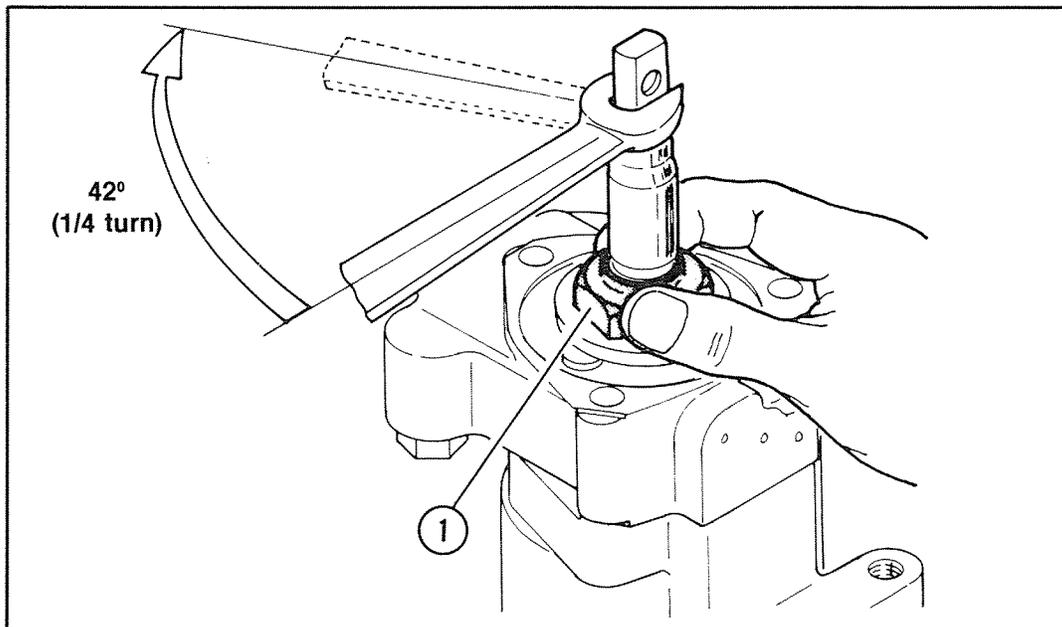

Figure 46
1. Fully turn the shaft counterclockwise with a wrench and tighten the nut. At that time, there should be no end play in shaft. Back off the nut $1/4$ turn (42°), Figure 46.